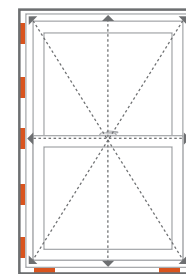

fig. 3 Single/Double-Hung window shown (interior view)
- Check for plumb and shim accordingly, shim side jambs 4" from the corners and at 8" intervals to ensure the window is plumb and square, when unit is level and plumb you may start fastening the window. (**fig. 3**)
- Ensure the window is level, square and plumb. (**fig. 3**)
- b. Ensure the window frame is level, square and plumb. (**fig. 3**)
- c. Ensure the window frame is level square and plumb. (**fig. 3**)